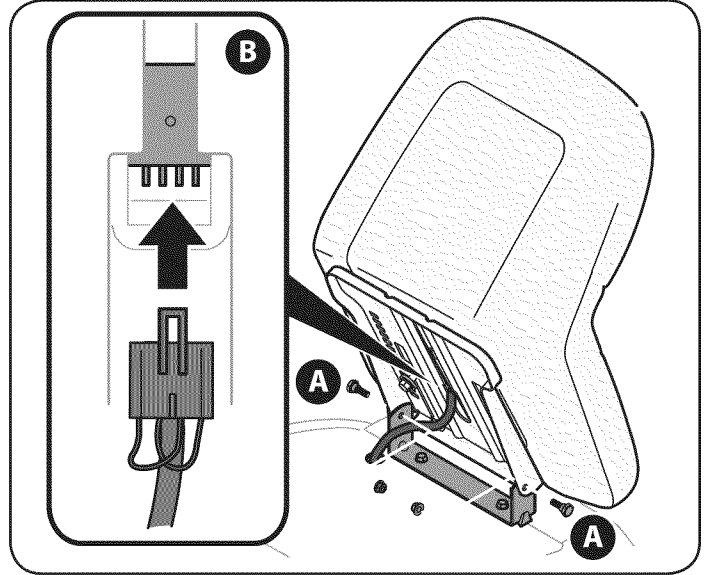

Figure 4
4. Position the seat assembly over the seat mounting bracket, aligning the holes provided. See “A” in Figure 4.
5. Install two shoulder bolts included with your hardware pack and secure with two lock nuts. See Figure 4.
6. Feed the wiring harness through the seat mounting bracket and plug into the safety switch on the bottom of the seat, as in “B” of Figure 4.